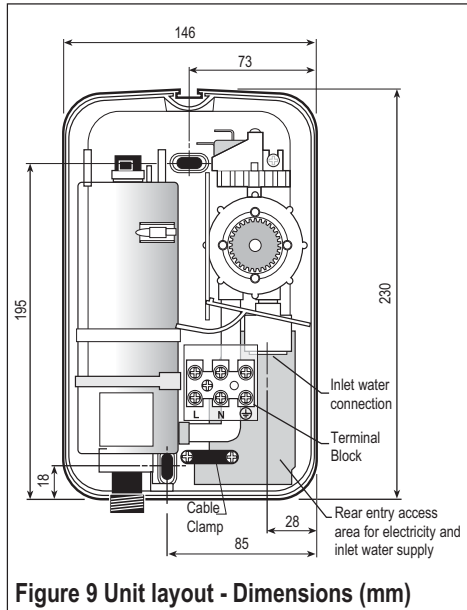
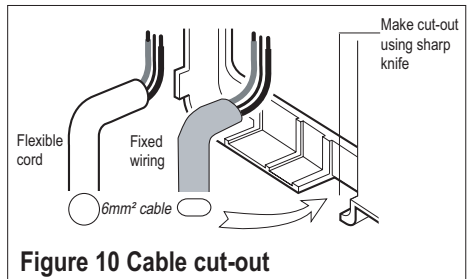

Figure 9 Unit layout - Dimensions (mm)
Figure 10 Cable cut-out
5.6 Cable entry can be from the rear (preferred see fig. 9) or from the bottom. The backplate has cut out positions to suit 2 sizes of cable. When opting for bottom entry make cut out to suit cable before fitting backplate to the wall - see Fig. 10.
5.7 Plumbing entry can be from the rear (preferred) see fig. 9 or from the bottom. The backplate has a cut out position to suit 15mm pipe. When opting for bottom entry make cut out before fitting backplate to the wall - see Fig 11.